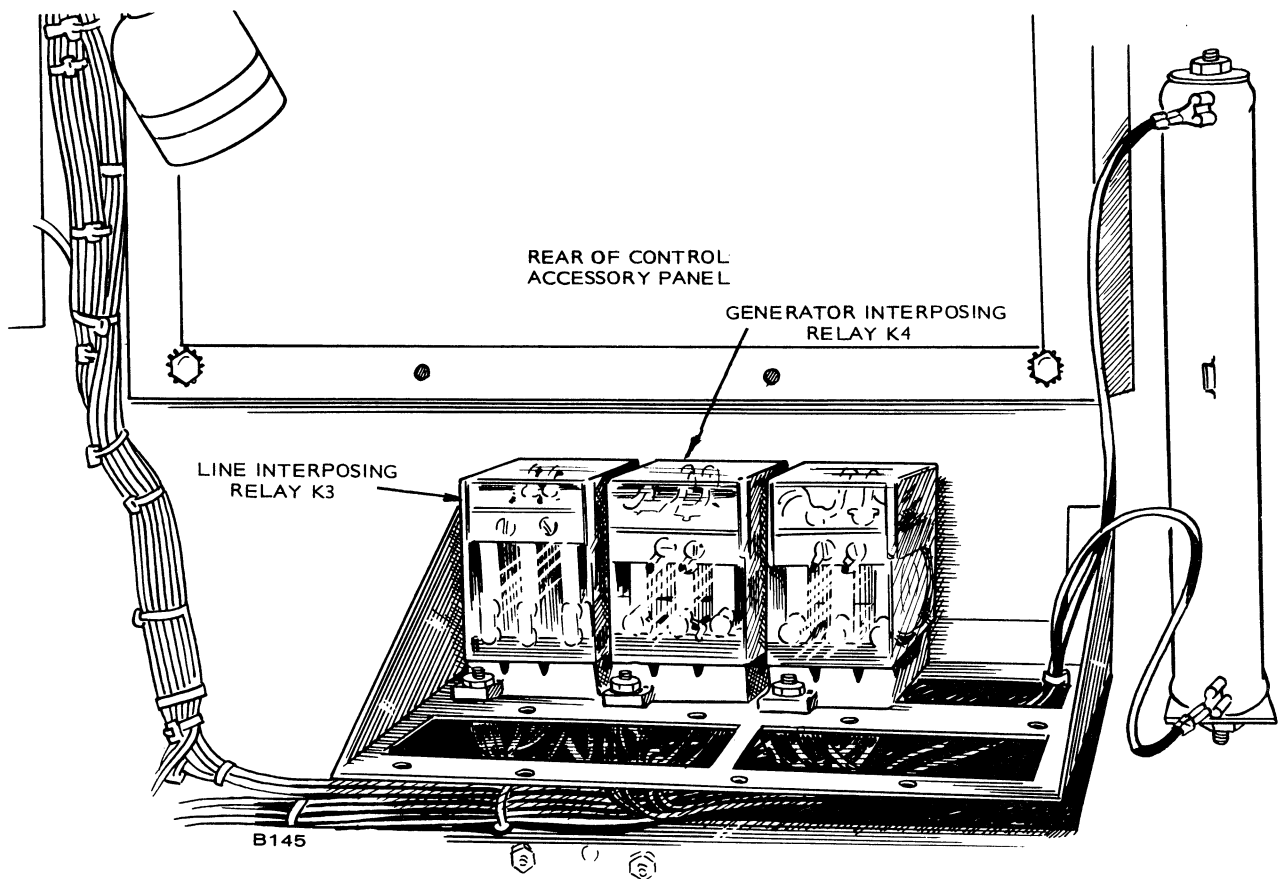

FIGURE 23. LOCATION OF INTERPOSING RELAYS
6. Locate generator interposing relay K4 (Figure 23).